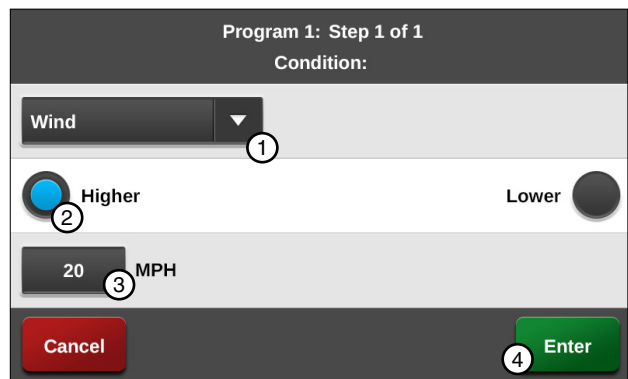

Figure 121-2 1. Wind Command 3. MPH
- a) Select the **Choose Condition** drop-down menu and choose **Wind**. Refer to Figure 121-2.
5. Finish the program by selecting one of the following. Refer to Figure 121-2.